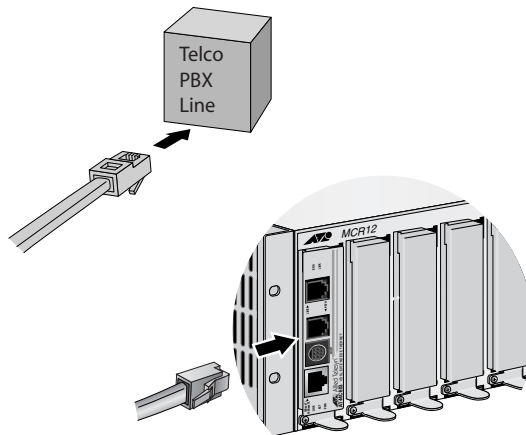

Figure 21 PSTN to Telco PBX Line
2. Then, connect a telephone line cable from the PSTN port to the outside telco box, as shown in Figure 21.